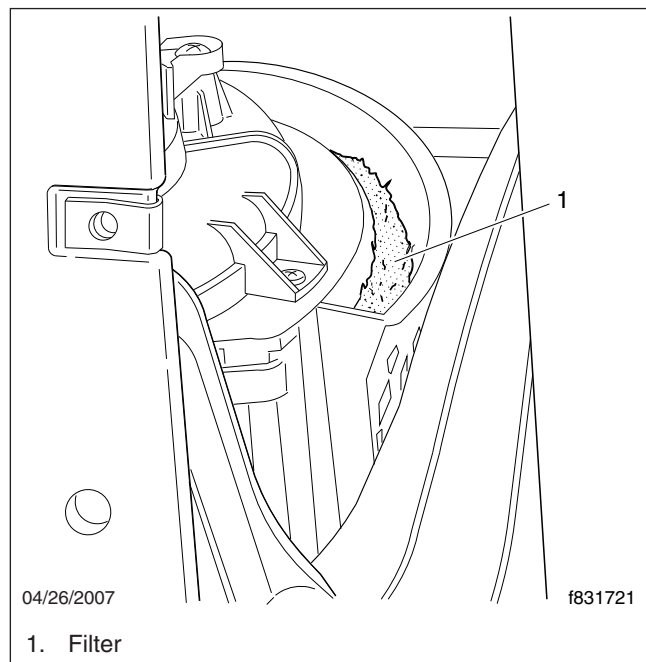
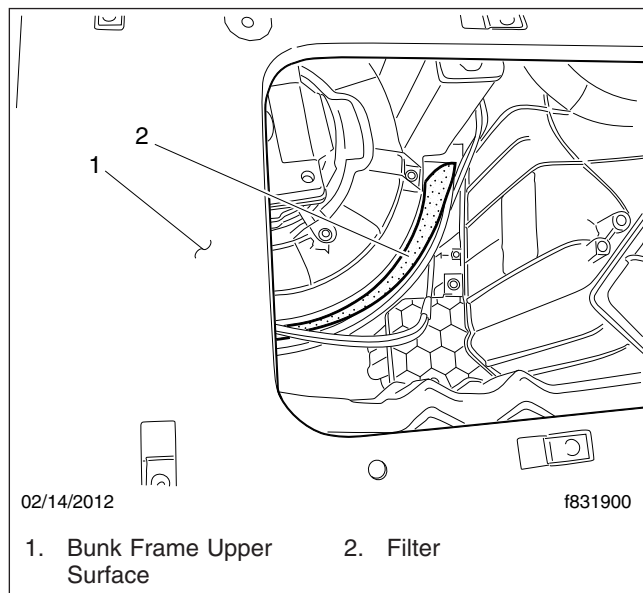

Fig. 10, Removing the Filter, 60- and 72-inch Sleepers
Fig. 11, Removing the Filter, 48-inch Sleeper
3. Lift the filter out of the slot. See Fig. 10 for 60- and 72-inch sleepers, or Fig. 11 for 48-inch sleepers.